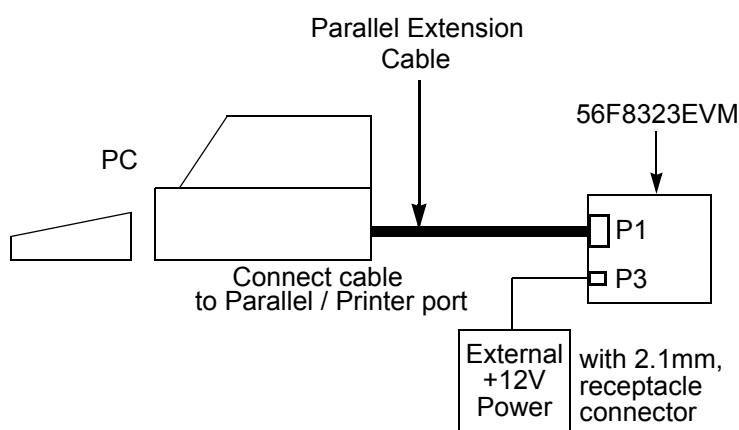

Figure 1-3. Connecting the 56F8323EVM Cables
An interconnection diagram is shown in **Figure 1-3** for connecting the PC and the external +12.0V DC/AC power supply to the 56F8323EVM board.
2. Connect the other end of the parallel extension cable to P1, shown in **Figure 1-3**, on the 56F8323EVM board. This connection allows the host computer to control the board.
4. Connect the 2.1mm output power plug from the external power supply into P3, shown in **Figure 1-3**, on the 56F8323EVM board.